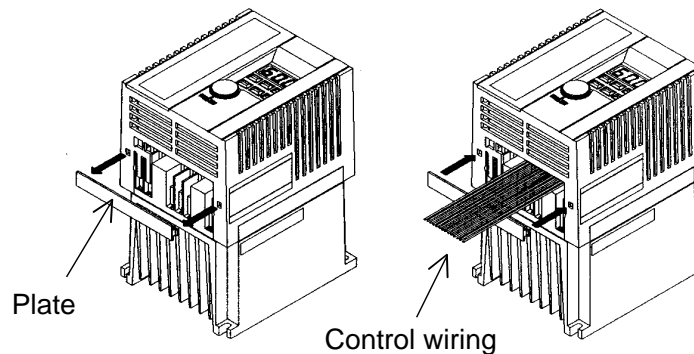

Figure 2-3-8 How to pull out the control wiring
- (5) Remove the plate at the bottom of the surface cover before performing drive control wiring and reinstall it after the wiring as shown in Figure 2-3-8.